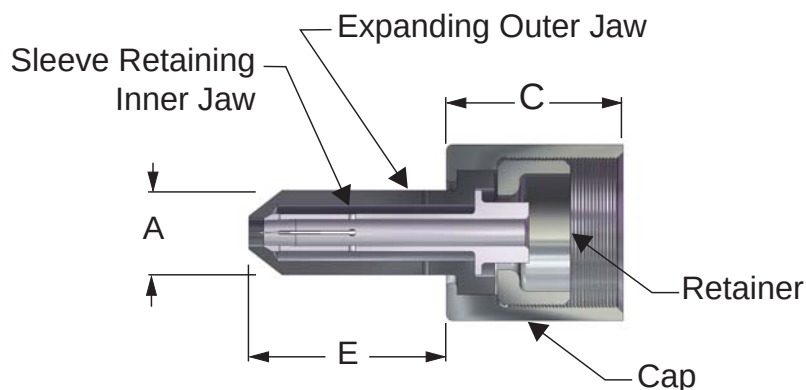

Figure 2.3-33
- Consists of a four-part assembly including cap, retainer, sleeve retaining (inner) jaw, and expanding (outer) jaw which extends approximately 1-5/8 inches from the face of the cap for the Little Brute Puller (Figure 2.3-33).